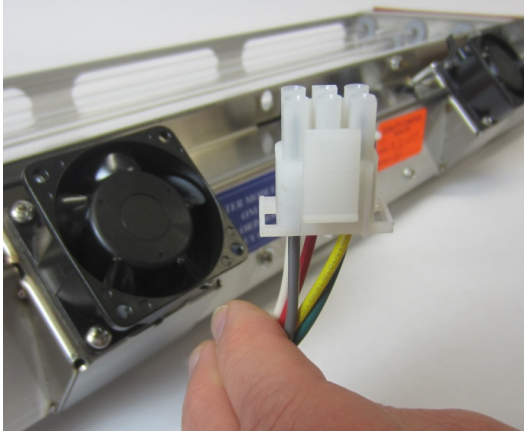

Figure 4-5-1
- d) Disconnect the Lamp / Ballast Connector plug (Refer to Figure 4-5-1 and 4-5-2).